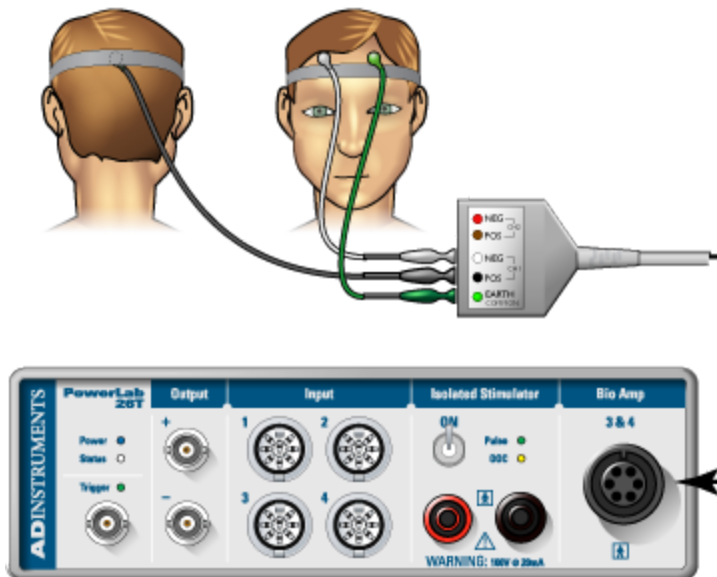

Figure 1. Equipment setup for PowerLab 26T. Image courtesy of ADInstruments ©
2. Connect the 5 Lead Shielded Bio Amp Cable to the Bio Amp Connector on the front panel of the PowerLab (Figure 1). The hardware needs to be connected **before** you open the settings file.
3. Attach the leads of the EEG Flat Electrodes to the Earth, CH1 NEG and POS pins closest to the labeled side on the Bio Amp Cable. Channel 1 “**positive**” will lead to the inion (the bump on the back of the head above the neck) and Channel 1 “**negative**” will lead to the forehead. Channel 2 will be empty and the Earth will lead to the temple. Refer to Figure 1 for proper placement, but do not attach them to the volunteer yet. Follow the color scheme on the Bio Amp Cable.
5. With Figure 1 as a guide, locate where you will place the electrodes. Abrade the skin with the NuPrep Abrasive Gel.
7. While the skin is drying, scoop Electrode Paste into the EEG Flat Electrodes. When the skin is dry, stick the electrodes to the skin (Figure 1). Immediately hold the electrodes and wires in place with the medical tape. Make sure the tape firmly holds the electrodes